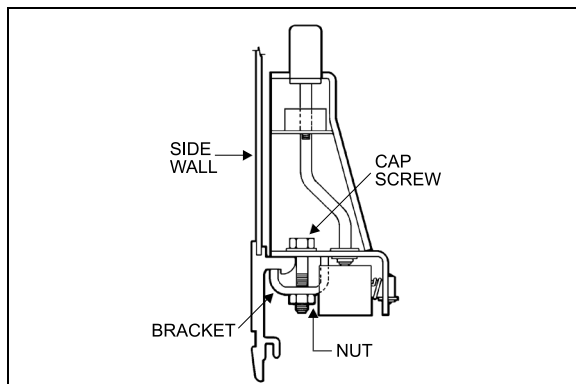

FIGURE 90: ARMREST
- Remove 2 cap screws, nuts, and washers holding seat frame to side wall and retain the 2 holding brackets. See Figure 90.